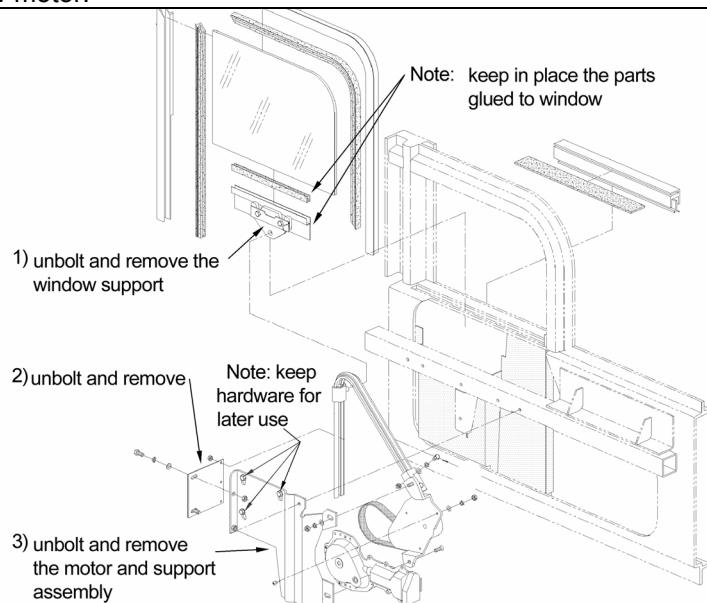

FIGURE 1
6. Remove the existing power window mechanism. Follow steps of figure 1.